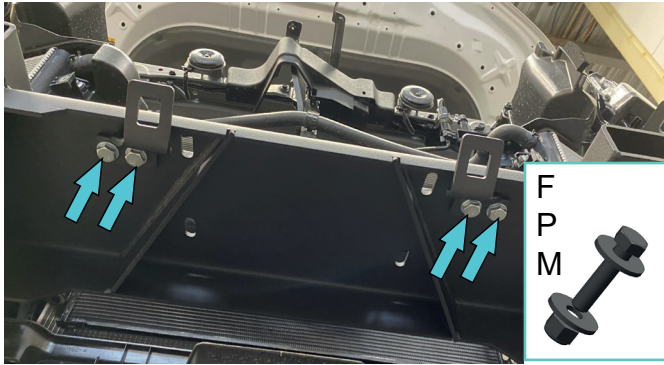

Fig.25
25. Fix front bash plate brackets (item 12, 13) using bolts M10x30, washers 10, nut M10 (item F, P, M) (fig.25).